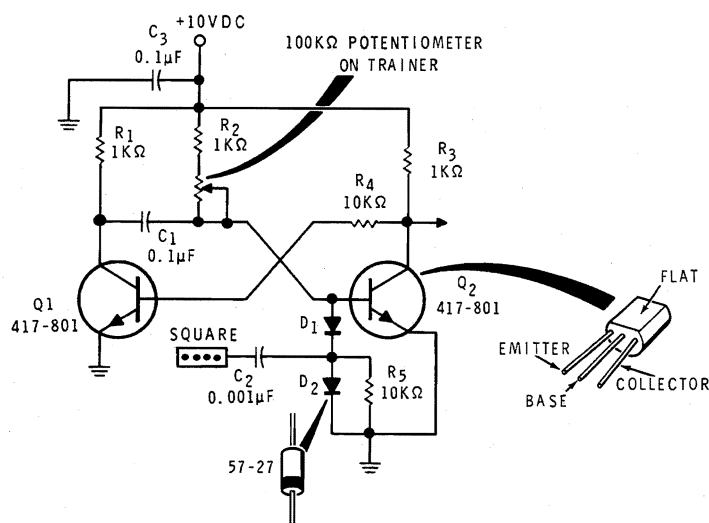

Figure 6-49
- Construct the circuit shown in Figure 6-49. Turn on the Trainer and adjust the (+) power supply voltage control to 10 VDC.